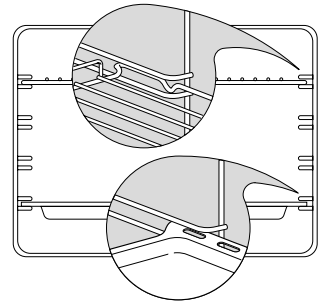

Fig. 16 Correct position of shelves and pan
- Put in the shelves and trays. If you are not using the sliding shelf supports, then slide in the shelves and grill pan as shown in Fig. 16. Fit them between the metal runners, with the safety stop notch down and at the back. (If the shelf supports and catalytic panels are not already fitted, see 'Care and cleaning' for how to do this).